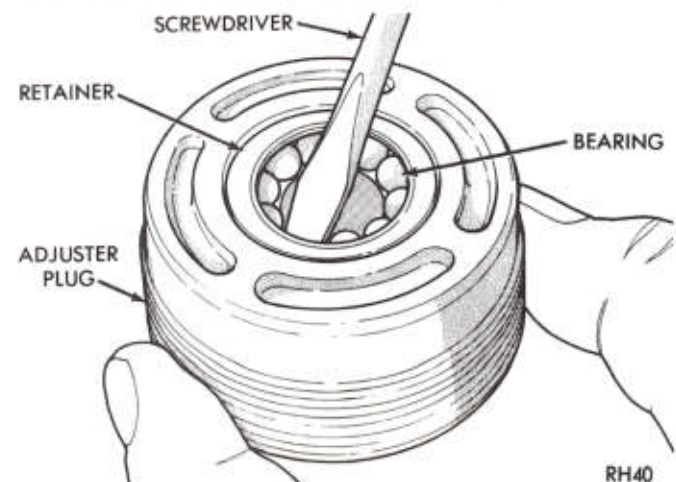

Fig. 6—Remove Lower Bearing Retainer
(7) Remove the remaining wormshaft bearing from inside the gear housing.
(8) Using a screwdriver, pry the lower bearing retainer from the adjuster plug, and remove the bearing (Fig. 6).
(9) Remove locknut from sector shaft adjusting screw and remove screw from cover by turning screw clockwise. Slide the adjuster screw and shim out of the slot in the end of the sector shaft.
(10) Remove wormshaft and sector shaft seals.